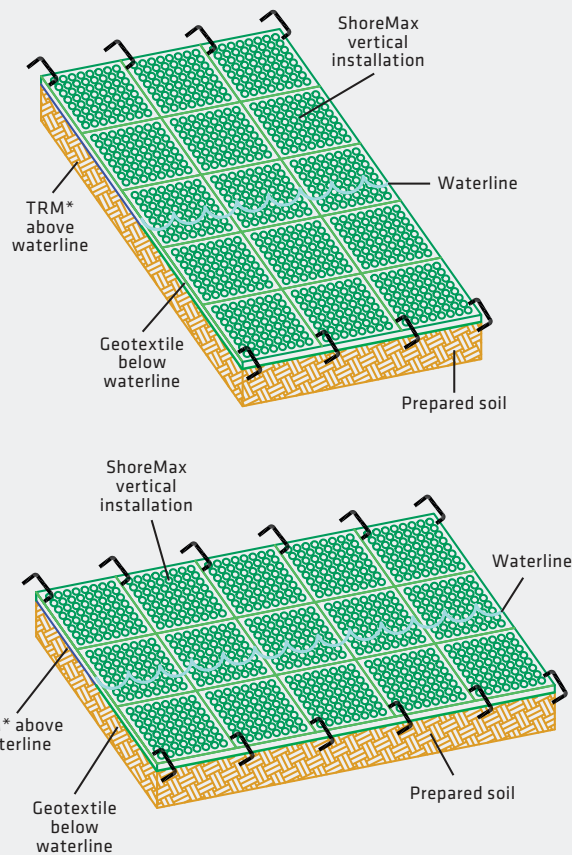

FIGURE 8: Edge of mat anchoring
7. Place one staple/pin per linear foot along the top and bottom edges of the ShoreMax System, placing one on each corner and gridline (Figure 8).